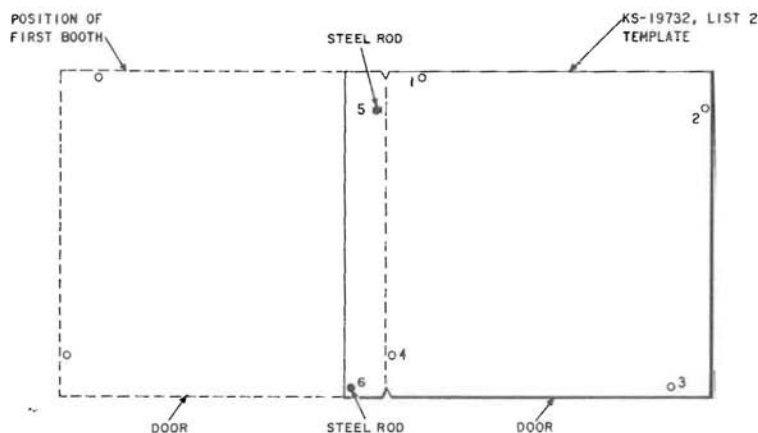

Fig. 12—Left to Right Layout for Drilling Mounting Holes
- 3.17 Use a chalk line and mark the floor where the front edge of the lineup will be (Fig. 12).
- (3) Move template to the right and align template holes 5 and 6 with previously drilled holes 3 and 4, respectively (Fig. 12). Insert the two steel rods in these holes.
- (4) Drill 1/4-inch holes at positions 1, 2, 3, and 4 to a depth of approximately 1-1/4 inches.
- (5) If a third booth is to be installed, move template to the right and align template holes 5 and 6 with previously drilled holes 2 and 3, respectively (Fig. 12). Insert the two steel rods in these holes.
- (6) Repeat step (4).
- (7) If additional booth positions are required, repeat steps (5) and (4) respectively.